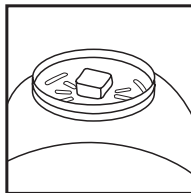

Fig. 3
4. For additional buttery flavor, add pat of butter to the top of the Cover (where the Steam Vents are located) to heat while cooking. **(Fig. 3)**. It is recommended to use 1 tbsp butter per 1/4 cup popcorn.